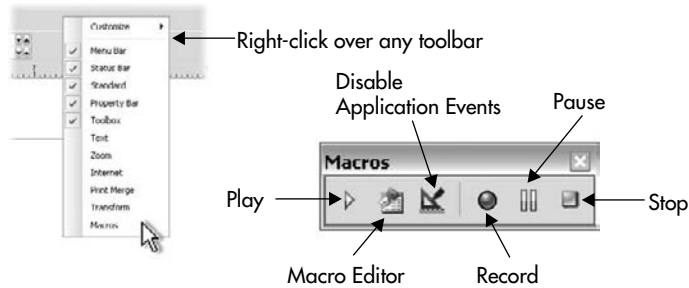

FIGURE 30-1 Use the Macros Toolbar much in the same way you use any onscreen or even physical recording device. The buttons are labeled with universal symbols.
3. Right-click on any of the toolbars at the top of the application window. From the pop-up menu choose the Macros Toolbar. The Macros Toolbar is shown in Figure 30-1. The Tools | Macros commands can be used to record a macro, but it's easier to use the Macros Toolbar.